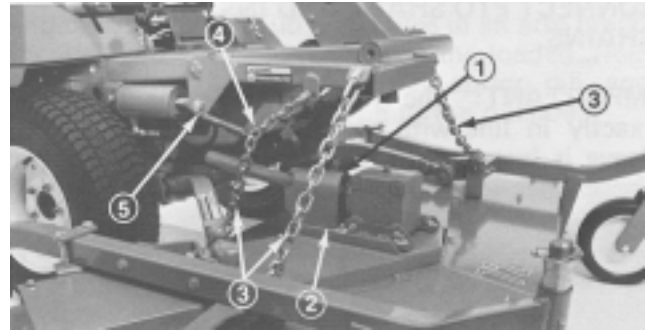

Figure 15
2. Mount the PTO shield over the input shaft and onto the gear box mounting plate with two self-tapping screws (Fig. 15).
3. Attach the lift chains to the lift arm and cutting unit (Fig. 15) with 6 shackles, shackle pins (3/8 x 1-1/2 in.), and cotter pins (1/8 x 3/4 in.). Adjust the chain length so that both become tight at the same time when lifting the lift arm.
4. Connect the ends of the tension spring between the fourth link of the rear chain and the eye of the cotter pin that holds the cylinder pin in place (Fig. 15). Adjust the length of the chain so that the rear caster wheels are off of the ground in the transport position.